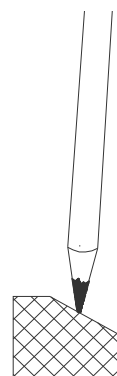

Figure 13
**STEP 25.** Select a section of the Nosing. Ensure that the bonding surface of the nosing is clean and dry. If the nosing is to be mechanically attached to the concrete, and if anchor holes have not been drilled into the nosing, mark the location for the anchor holes on the nosing (see Figure 13). Anchor holes are spaced 20" o.c. with an anchor hole at a nominal 3" from each end of the nosing. Repeat this procedure until each nosing section has the anchor hole locations marked on it. The anchor must be recessed into the nosing.